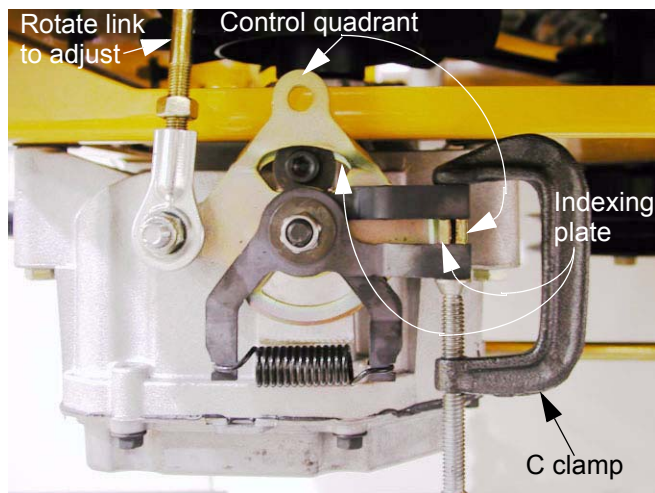

Figure 6.27
- 6.26. Loosen the jam nuts on the link that connects the bellcrank to the return-to-neutral mechanism. See Figure 6.27.
- 6.27. Clamp the fingers on the return-to-neutral mechanism so that they hold the tab on the control quadrant to the tab on the indexing plate. See Figure 6.27.